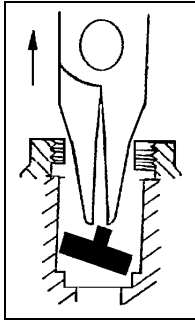

Figure 5-23: Removing the Flow Restrictor
5. Remove the restrictor with needlenose pliers; see Figure 5-23.